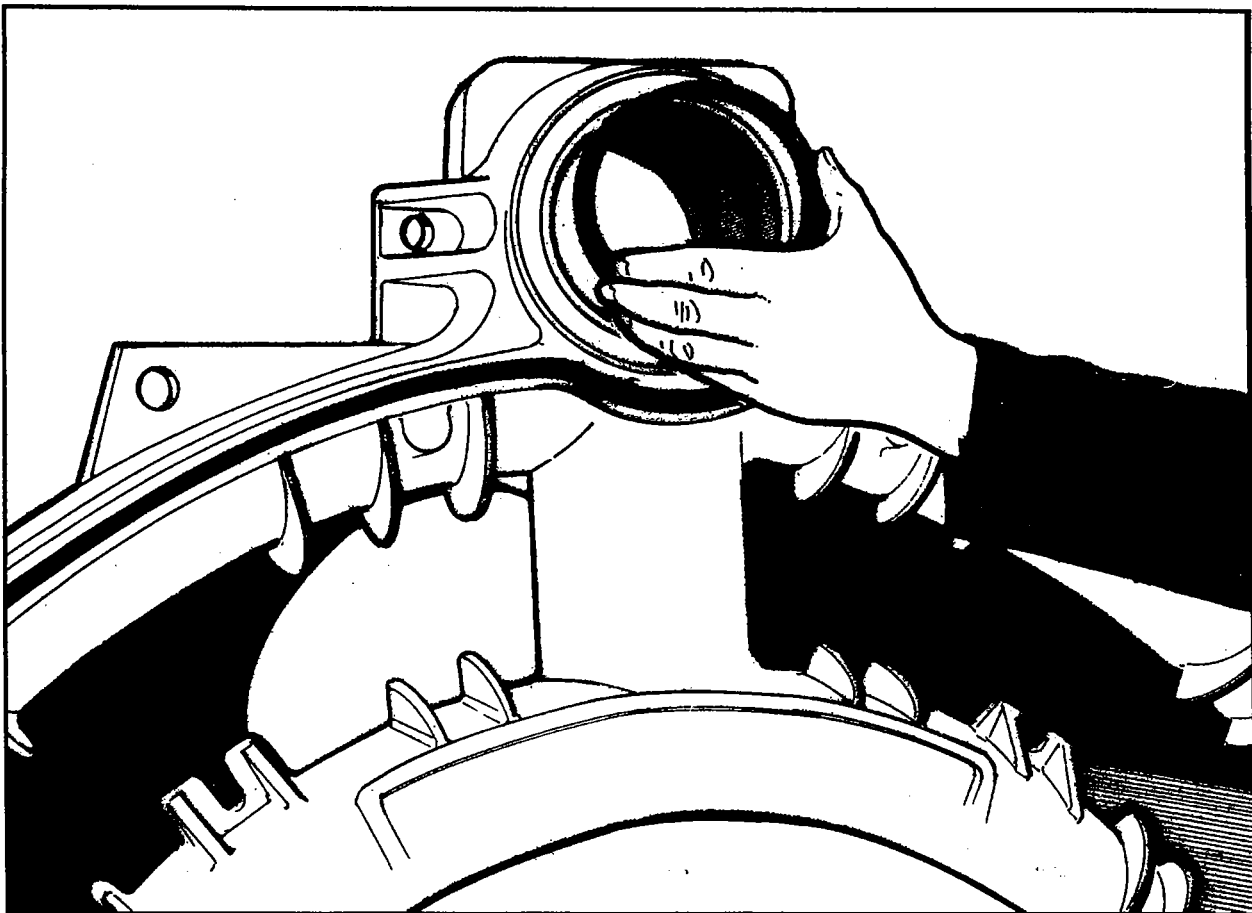

Figure. 10.5 – Fitting the nipple
- c. Select two nipples and clean the outer surfaces. Smear sealant onto the contact surfaces of the nipple and the nipple port. Fit the nipples into the ports on the rear of the section (Fig. 10.5) and tap into place using a soft faced mallet
- d. Place the next correct section (2) onto the cradle and fit to rear section, carefully locating the nipples into ports. Ensure that the section remains in position by hammering on the nipples using a soft faced mallet. Secure the section in place if necessary.